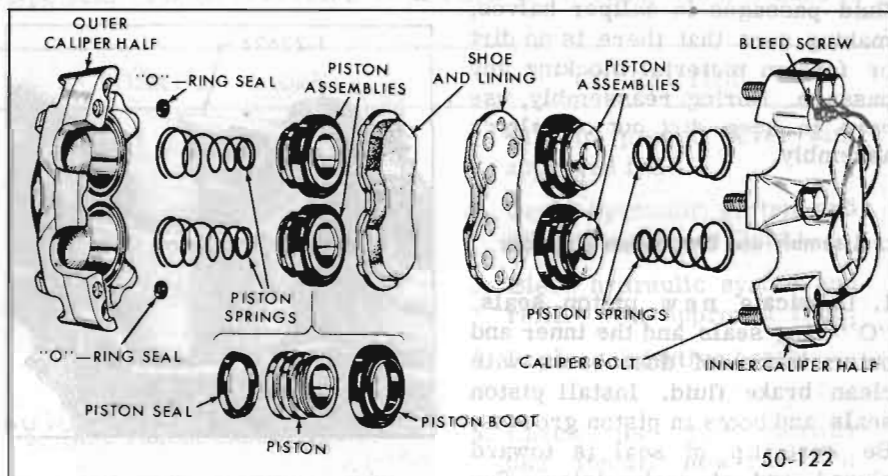

Figure 50-44—Caliper - Exploded View
5. Clamp outer caliper half (with heads of caliper bolts up) in a vise equipped with a soft-jawed device and remove the three caliper bolts. Lift off inner caliper half. Use a scribe or thin-bladed screwdriver to remove two small "O"-ring seals from recesses in mating surface of outer caliper half. See Figure 50-44.